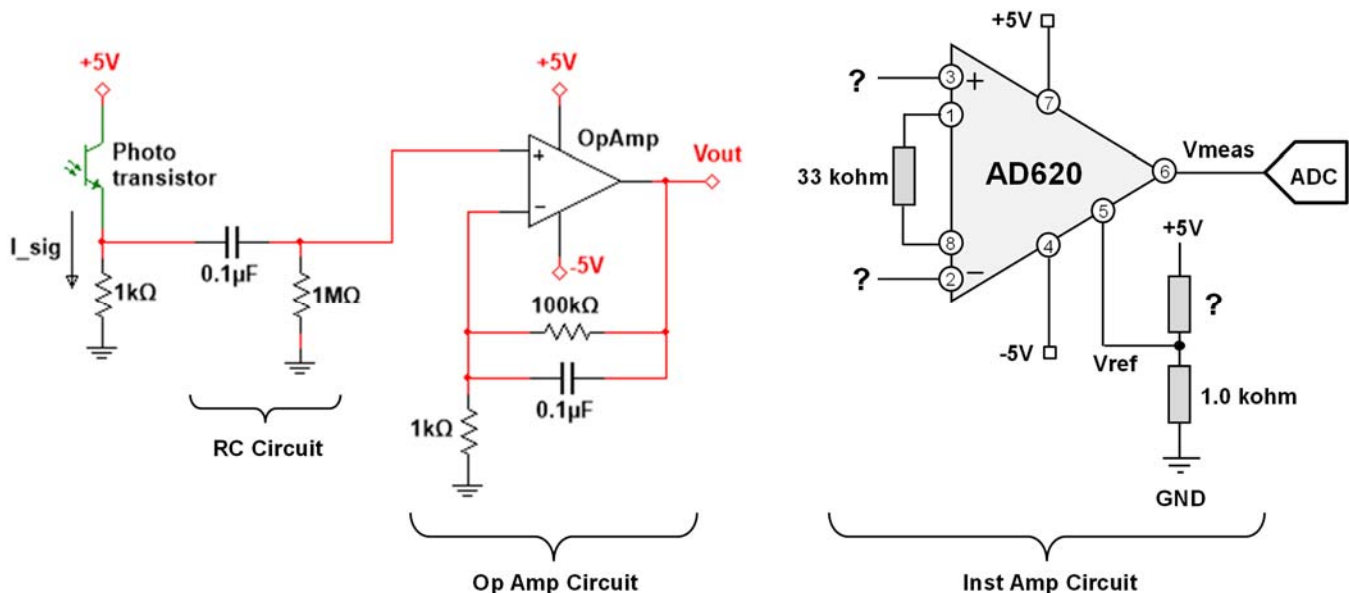

Fig. 4: The phototransistor output is sent through an RC circuit, an op amp circuit, and finally the instrumentation amplifier.
As shown in Fig. 4, the phototransistor circuit is followed by an RC circuit, an op amp circuit, and an instrumentation amplifier circuit.
- **Problem 5:** Fig. 4 shows an “incomplete” instrumentation amplifier circuit.  $V_{ref}$  is made from a 1 kohm resistor (bottom) and a “mystery” resistor (top). Compute the appropriate standard 5% value for this upper resistor in order to produce  $V_{REF}$  close to 1V.